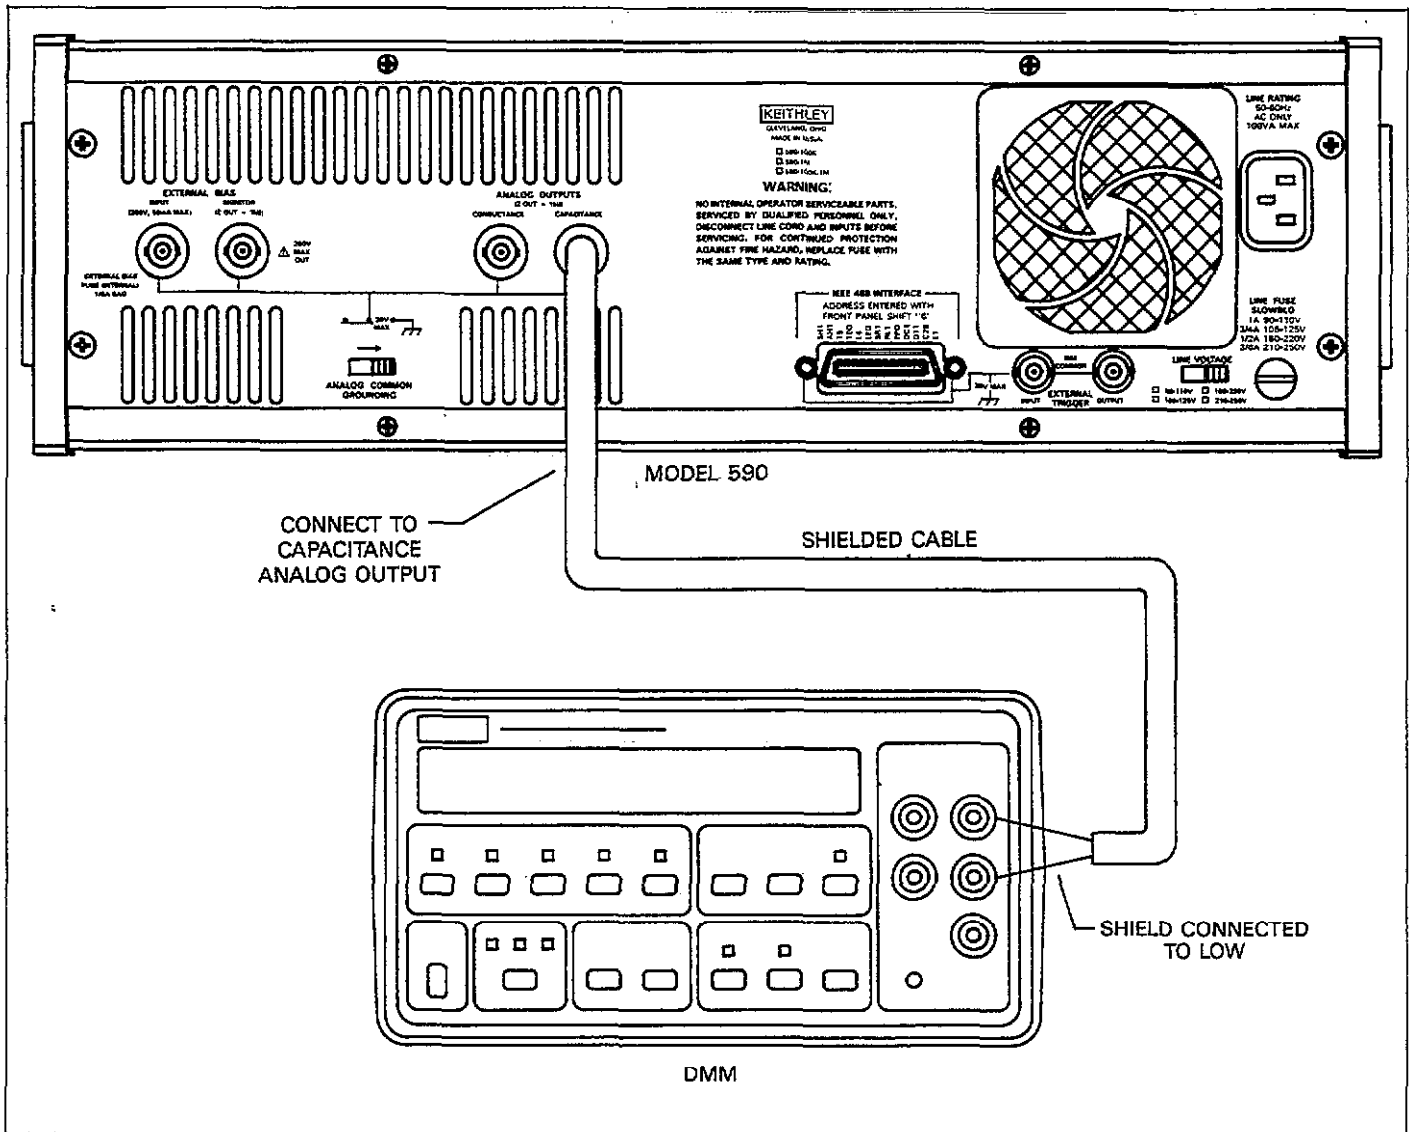

Figure 5-4. Connecting for Analog Output Capacitance Verification
3. Connect the DMM to the CAPACITANCE ANALOG OUTPUT jack on the rear panel, as shown in Figure 5-4. The DMM high terminal should be connected to
3. Connect the DMM to the CAPACITANCE ANALOG OUTPUT jack on the rear panel, as shown in Figure 5-4. The DMM high terminal should be connected to the center conductor, and the low terminal should be connected to the cable shield. Select the DCV function and autoranging.